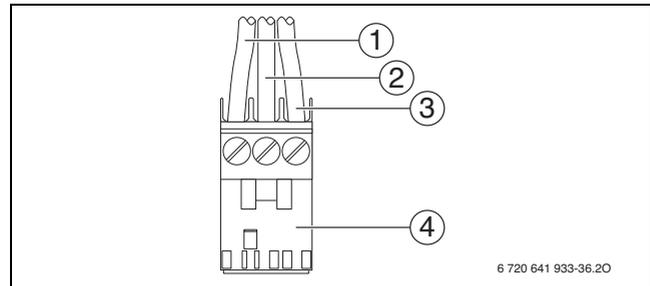

Fig. 58 Attach plug (mains power supply)
- ▶ Connect cable to **the white plug** according to Fig. 58.